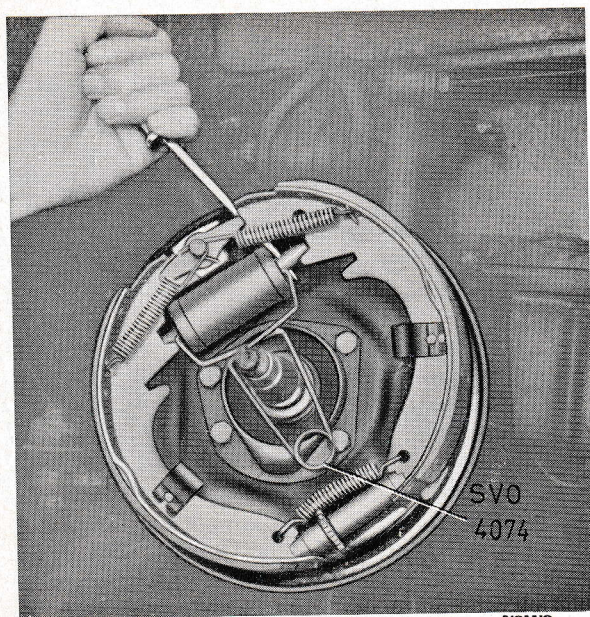

Fig. 53. Removing the wheel unit cylinder.
2. Place clamp SVO 4047 over the wheel unit cylinder. Move the brake shoes to one side with the help of a screwdriver in order to release the push rods from the shoes, see Fig. 53.